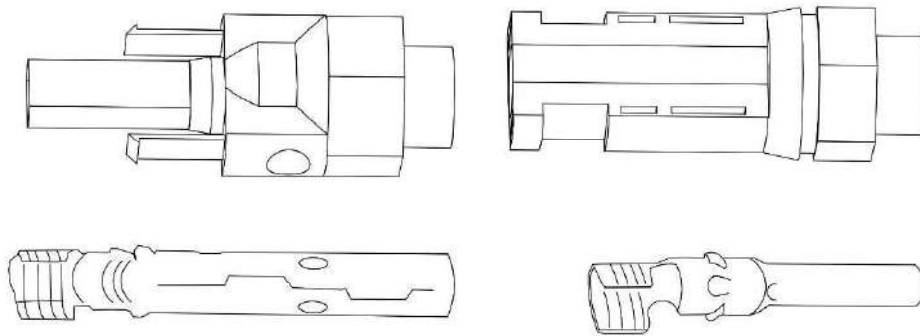

Figure 2.11 Photovoltaic input connector: DC+ connector left DC-Connector right
- 3 Assemble the photovoltaic input connector as shown in Figure 2.11 at the bottom of the device.